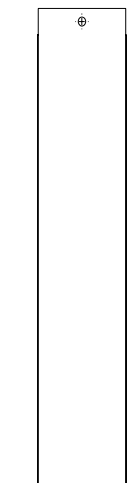

Figure 16
8. The brackets have a perforation at the bottom of each side. Bend them at the perforation. See **Figure 16**.